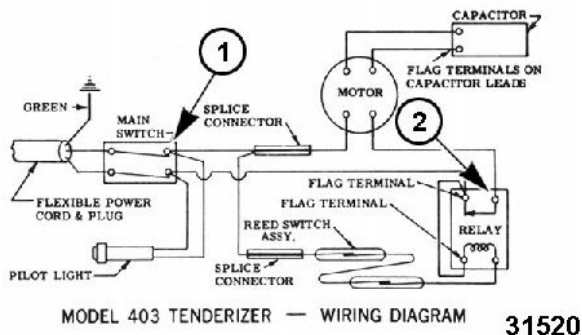

Fig. 21
- 4) Set your meter on the appropriate range to read 200VAC and connect as shown in (Fig. 21). Connect one lead (1, Fig. 21) to "On-Off" switch terminal where splice wire connects and the other meter lead (2, Fig. 21) to the relay contacts where the motor lead connects.